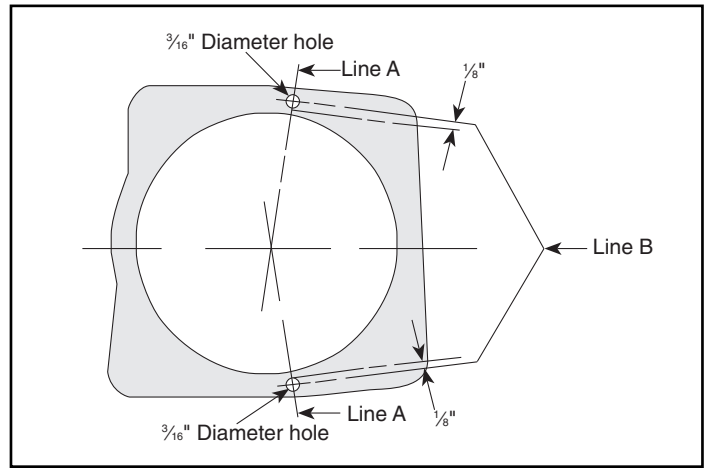

Figure 1
- Place cylinder with head gasket surface down on bench. Lay out lines "A" on cylinder base gasket surface so they are directly above centers of old oil return holes which exit into cylinder bore. See Figure 1.